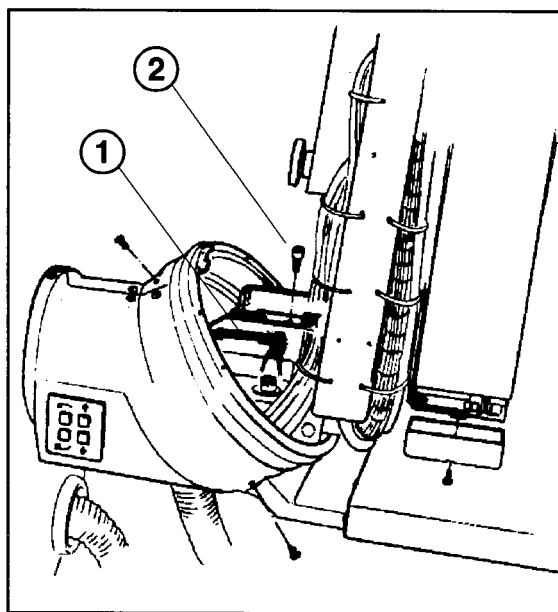

Fig. 2
- Disconnect ground wires (1/Fig. 2).
- Loosen the three fixing screws (2/Fig. 2) and remove compression unit.